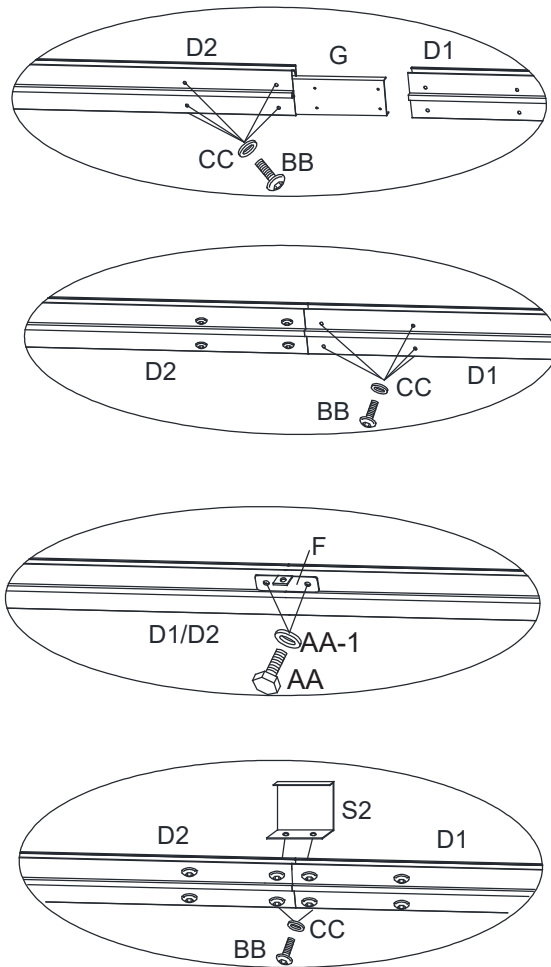

Fig.3.2
3.2. Connect the Long Left Lintel (D1) with the Long Right Lintel (D2) through the Lintel Connector - Large (G) with bolt (BB) and washer (CC), then screw in the Connector (F) into the lintel (D1/D2) using bolt (AA) and Steel washer (AA-1), put the Lintel Cover - Center (S2) onto the joint of the two lintels with bolt (BB) and washer (CC), pay attention to install the screws based on the orders shown in the illustration. See Fig.3.2